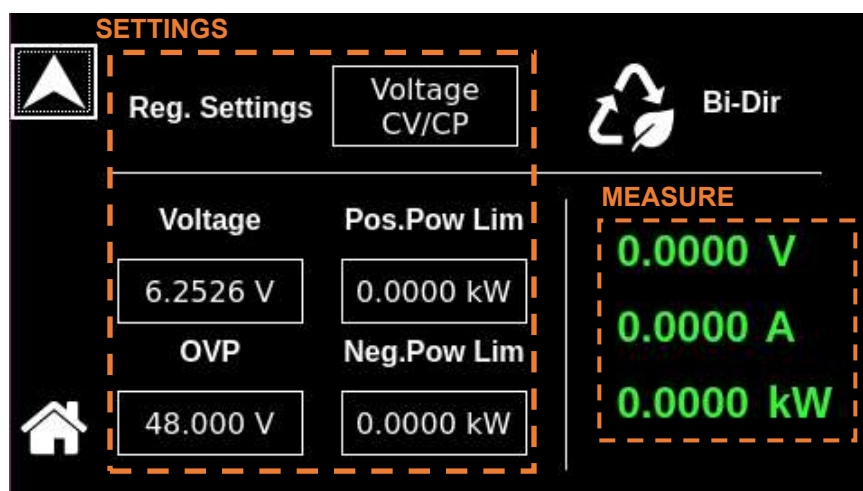

**Figure 8-8. Dashboard Screen in CV/CP Mode**
a) **Voltage** – CV/CP Regulation setting is shown in Figure 8-8,